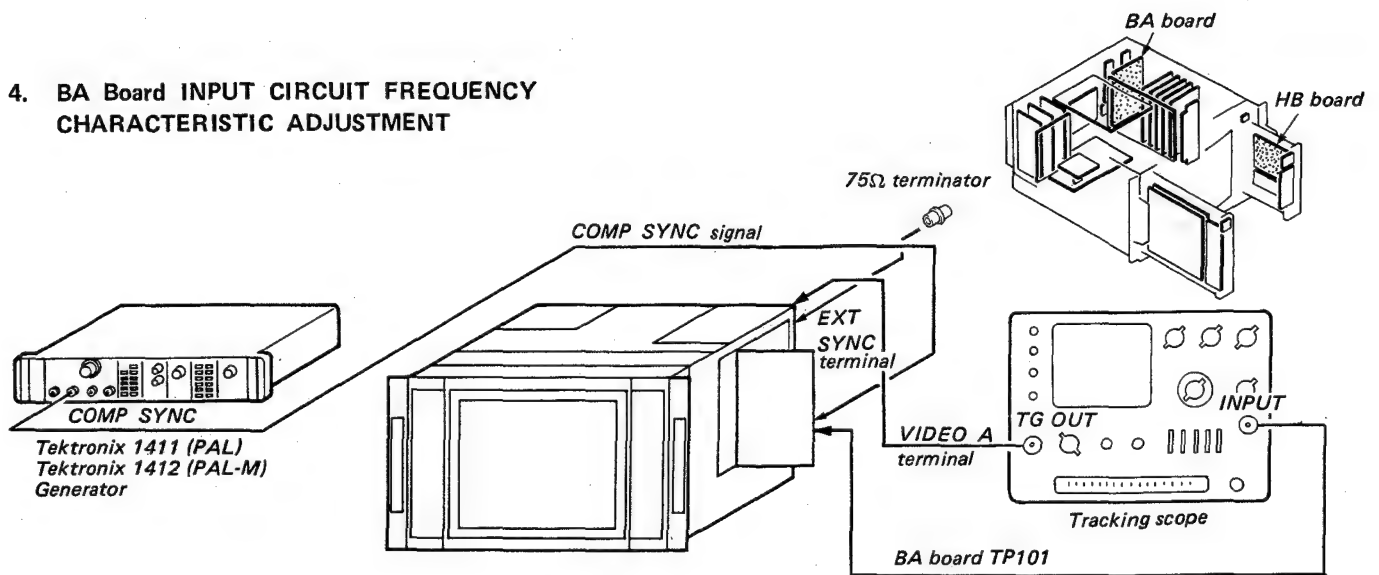
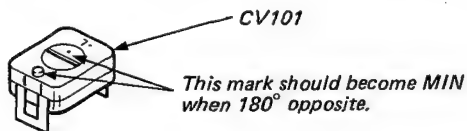

Fig. 4-1
Fig. 4-2
- Complete the connection as shown in Fig. 4-1.
- INPUT selector . . . . . A (A)
- Adjust CV101 so that minimum as shown in Fig. 4-2.